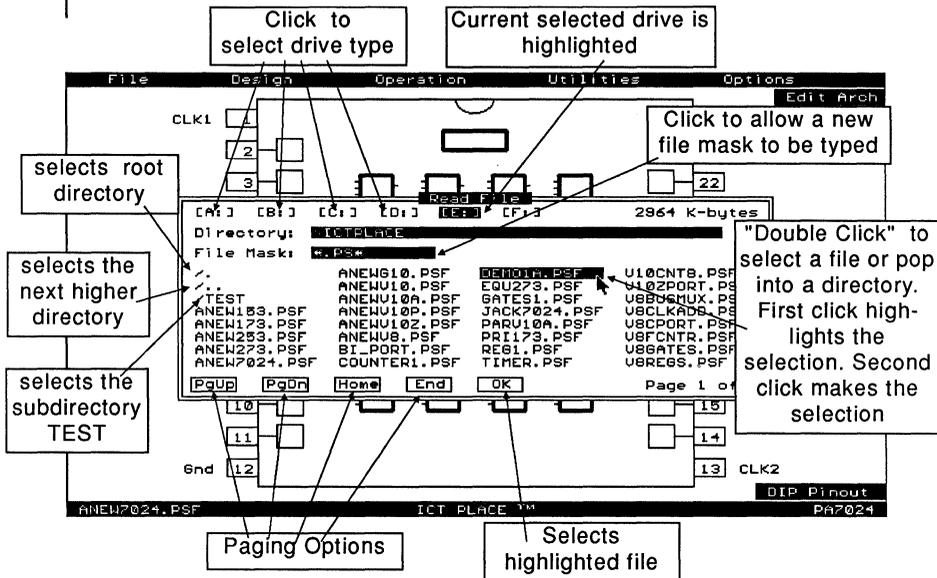

Figure 4-2, "Read" file selection screen
Read Allows a PSF source, simulation, documentation or JEDEC file to be loaded from the current directory in the current operation (e.g. loads PSF file in Design operation, CFG in Simulate operation, and etc. - refer to the Table 4-1). When selected, the File selection window will appear (Figure 4-2):
- SaveAs** Allows a new file to be saved to the current directory and disk. Click an existing file to over-write or click [New] selector to enter a new file name (the "SaveAs" file selection screen is similar to that of the "Read" screen in Figure 4-2 with the exception of the [New] function).